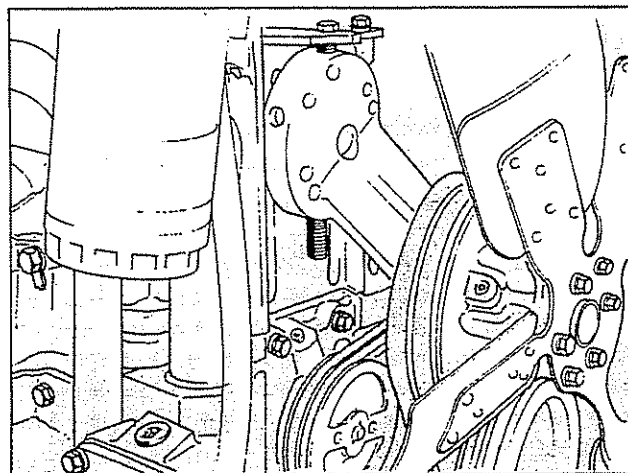

Fig. 2-6, (OM10161). Fan hub installation, NTC-350 FFC
5. Tighten NH/NT Engines locknut to 400 to 450 ft-lbs [542 to 610 N•m]; then back off 1/2 turn. Tighten the four 1/2 inch capscrews. Fig. 2-6, on NTC-350 FFC Engines to 75 to 85 ft-lbs [101 to 115 N•m].